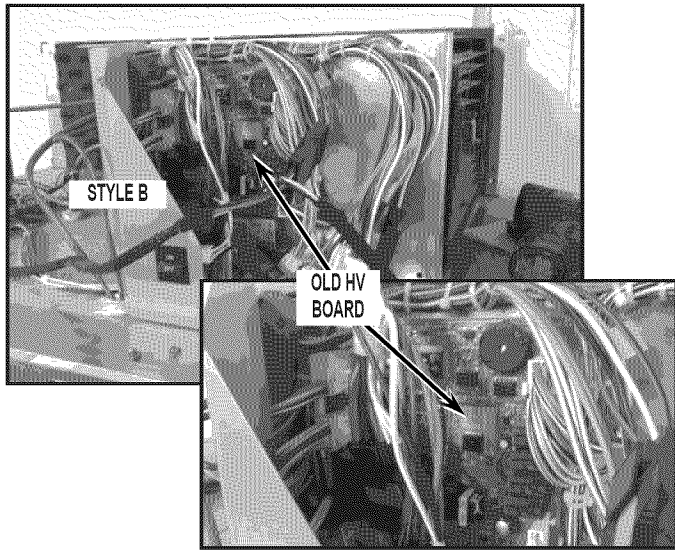

FIGURE 17
22. Remove all connectors from old HV board. See *Figure 17*.